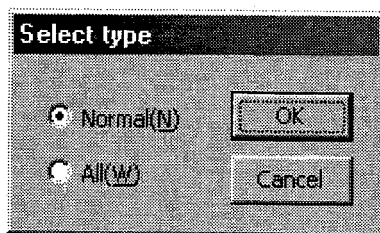

Figure 7.35 “Select type” dialog box
Click “Upload (U)” in the “Program Manager” menu to display the “Select type” dialog box (see Figure 7.35).